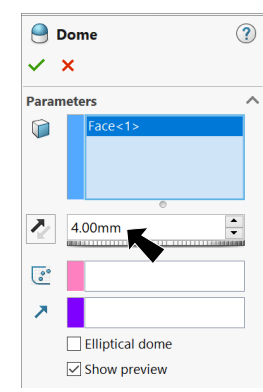

Fig. 48
Step 14. In the Cut-Extrude Property Manager set: under Direction 1, **Fig. 48**